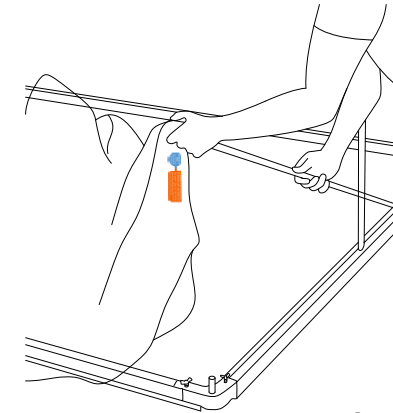

Fig. 2a
**Step 5:** Using one of the white poles (Item D), thread the pole into the hem closest to the blue dot starting with the plastic covered tip. Insert COMPLETELY through the hem and anchor the bottom open pole side into the corner connector (Item B). Fig. 2a (below)